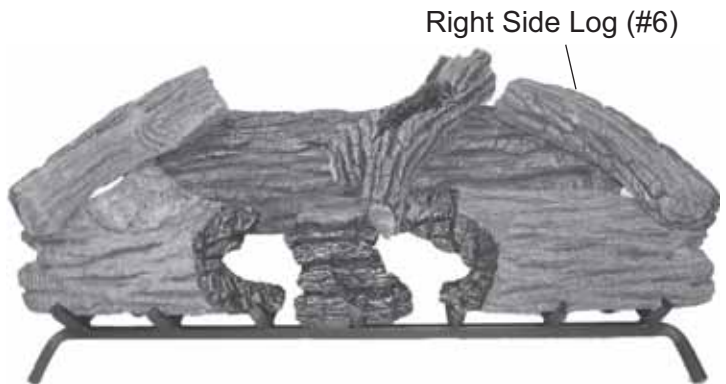

Figure 42 - Installing Right Side Log (#6)
8. Install right side log #6. *See Figure 42.*